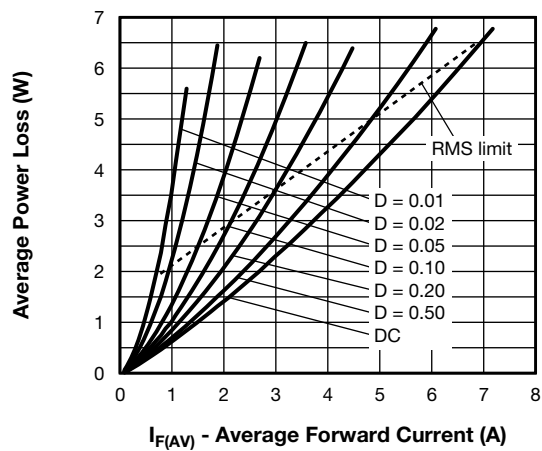

Fig. 6 - Forward Power Loss Characteristics
- (1) Formula used: $T_C = T_J - (P_d + P_{d_{REV}}) \times R_{thJC}$;
- P_d = forward power loss = $I_{F(AV)} \times V_{FM}$ at $(I_{F(AV)}/D)$ (see fig. 6);